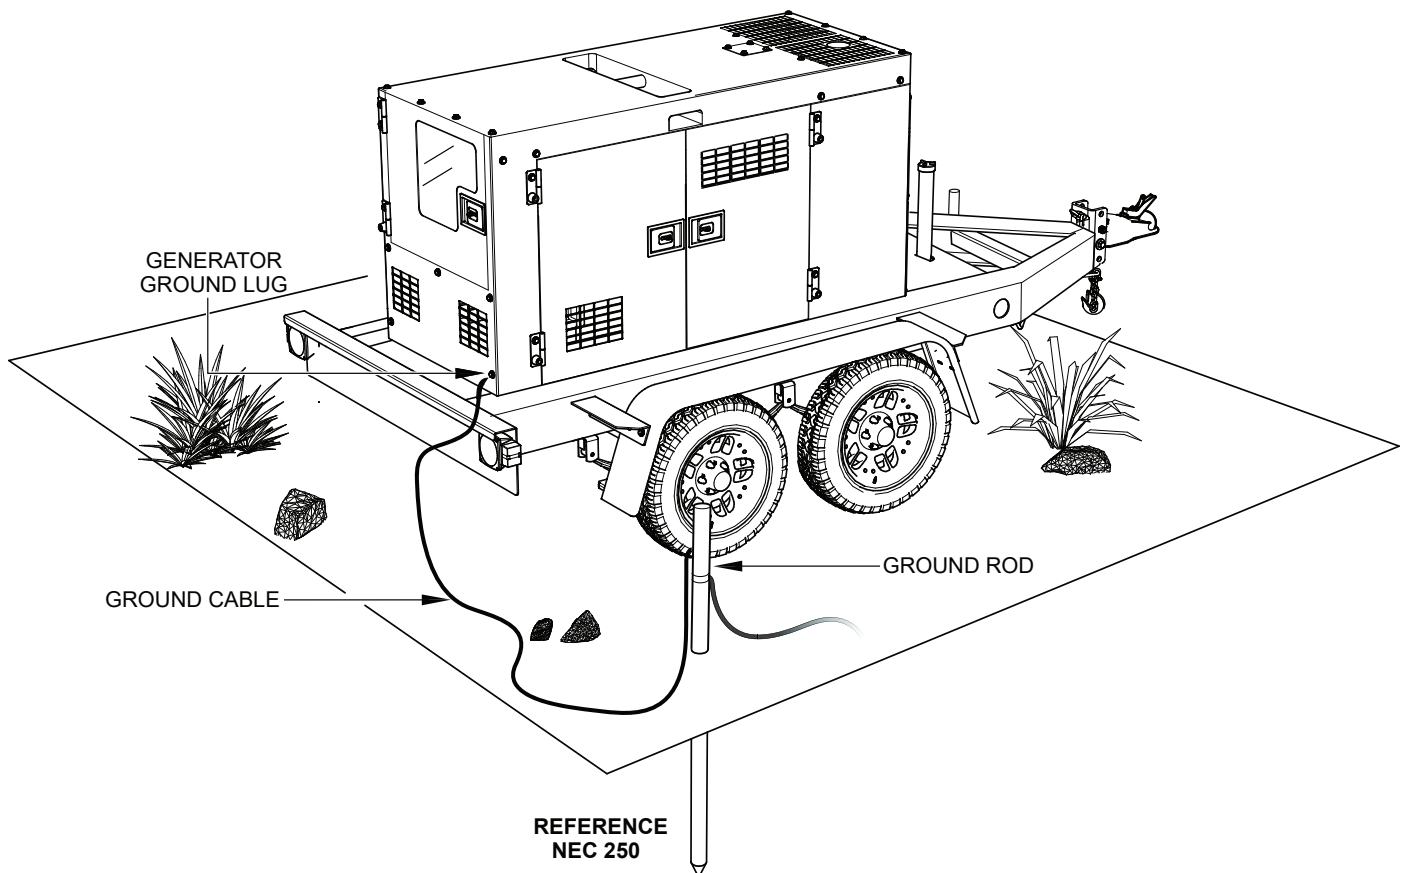

Figure 3. Typical Generator Grounding Application
**EXAMPLE** of how to ground (Figure 3) the unit if the condition of use requires such a device: